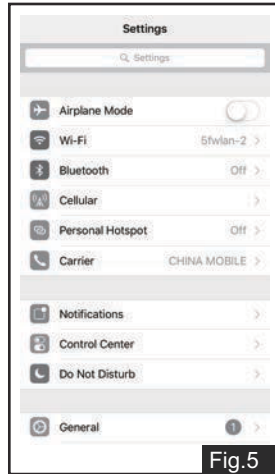

Fig.5
2. For best performance, install fixture at least 8 feet above the ground. At such a height, the fixture will provide a detection distance of up to 70 feet at 77 degrees Fahrenheit. (See Fig.5)